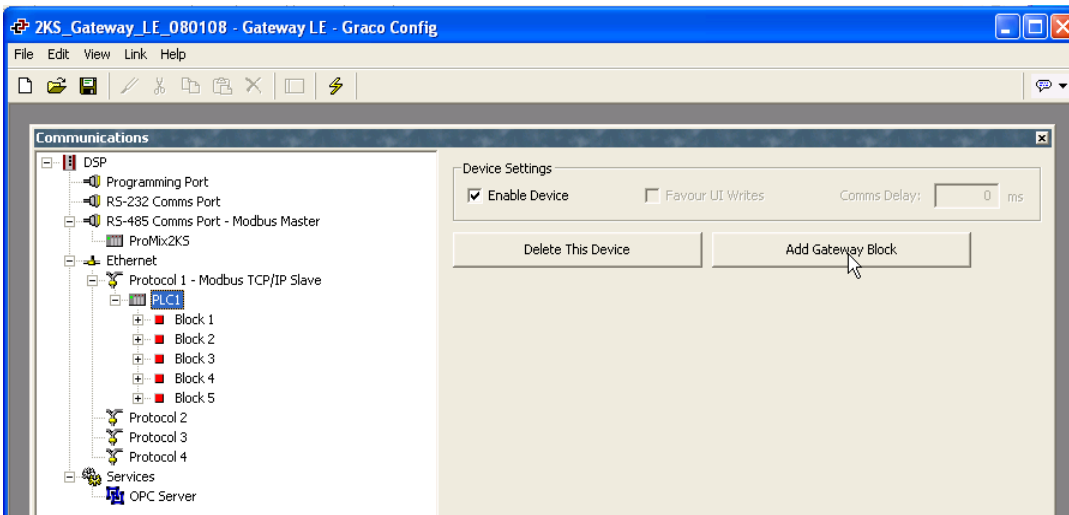

FIG. 22: Add Gateway Blocks
4. See FIG. 22. Add as many Gateway blocks as desired under each device.